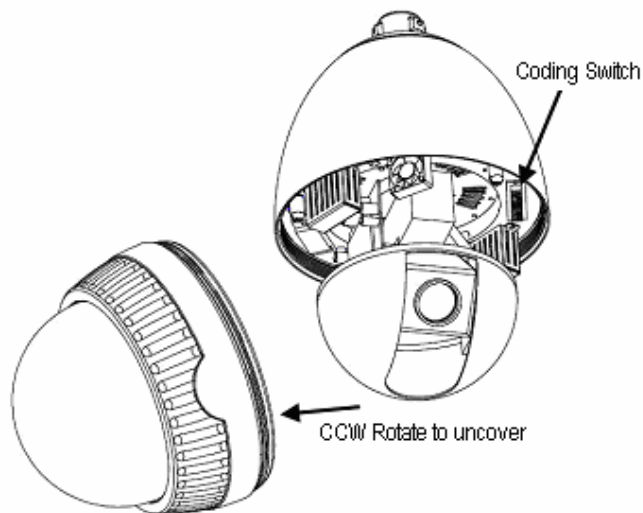

Figure 6
3. Rotate the vitreous cover CCW (counterclockwise) and take it out. (see Figure 6)
7. Fetch the signal cable, video cable and power wires from bracket. Fix the cover plate, tighten the knurled-screw (refer to Figure 6).
4. Referring to table 2, set the camera protocol and baud rate by the coding switch as shown in figure 6. Check if the camera address is compatible with the address that you want; if not, set the camera to corresponding address as per table 1.